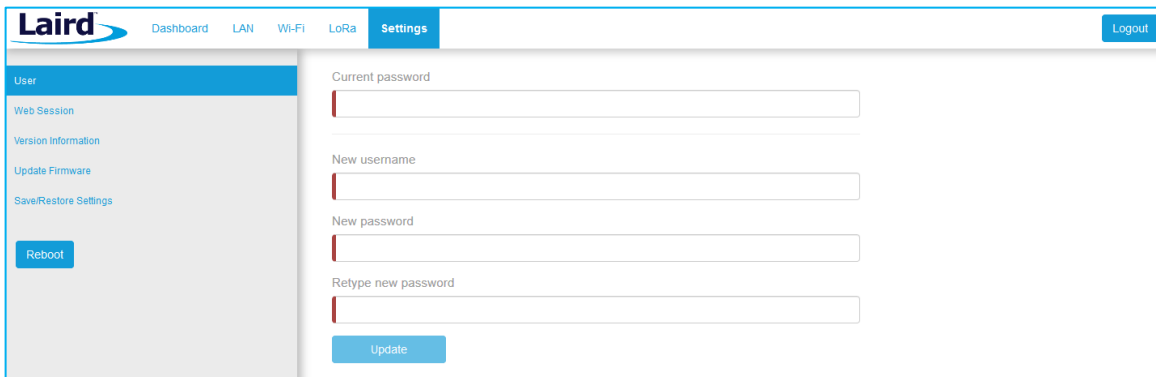

Figure 32: Change username and password
1. In the main menu, click the **Settings** tab. Then in the left menu, click the **User** tab (Figure 32).